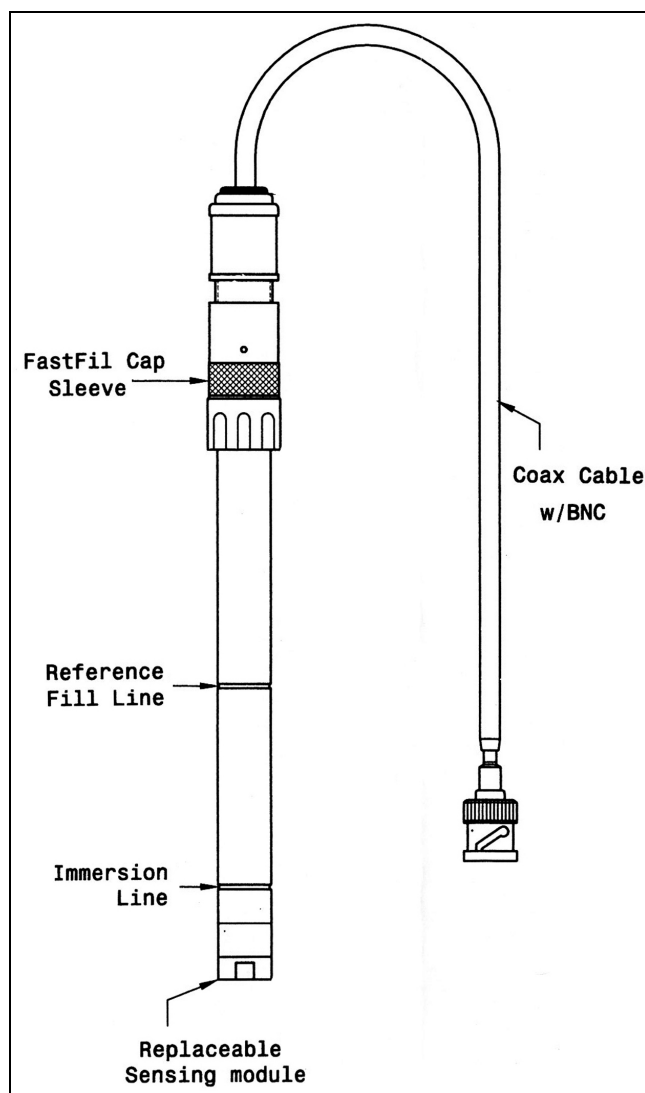

Figure 1: AC008 K⁺ Ion Selective Electrode
- b. Fill the reference chamber with the Reference Fill Solution provided above the reference fill line on the electrode (see Figure 1)
Periodically check the Reference Fill Solution level in the reference chamber. The solution level must be above than the reference fill line (see Figure 1).